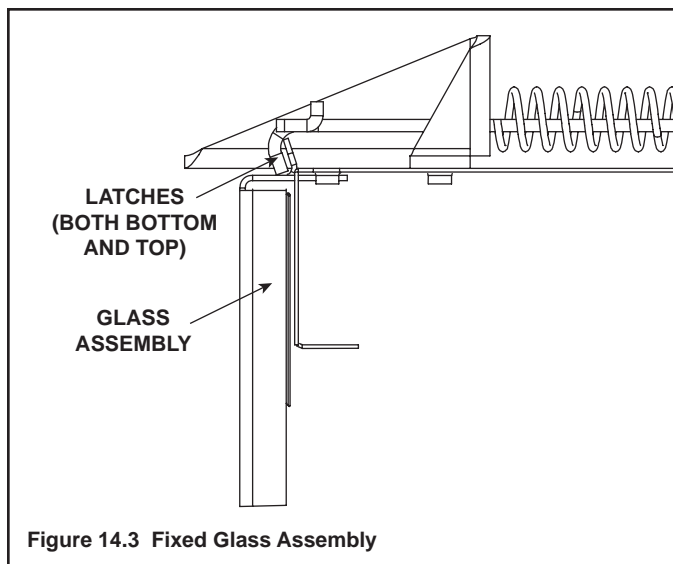

Figure 14.3 Fixed Glass Assembly
- When placing Glowing Embers® onto the burner care should be taken so that the ports are not covered. Place the dime-size ember pieces near the port holes in the burner top (see Figures 14.3 or 14.5). Failure to follow this procedure will likely cause lighting and sooting problems.
- Pull the four glass assembly latches out of the groove on the glass frame. Remove glass door from the appliance (see Figure 14.3).